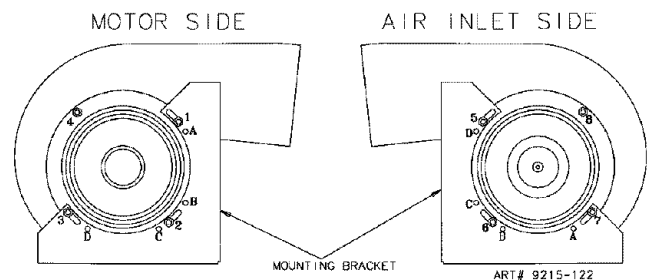

Figure 16
**NOTE:** The mounting brackets shown in figure 16 are as assembled at the factory for floor or rear wall venting.